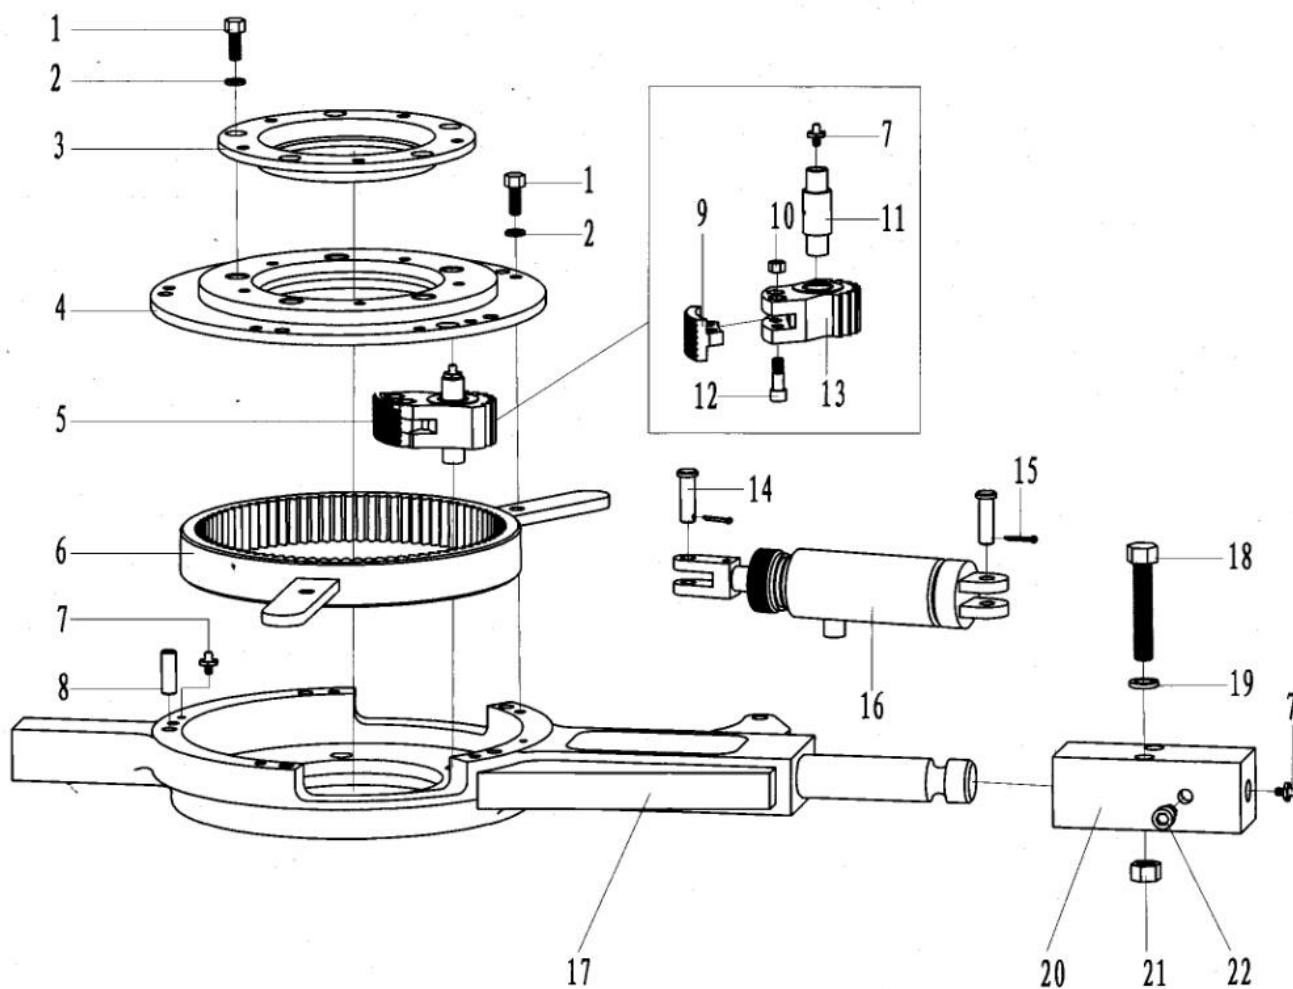

Fig. 24
10.11 Assembly of Backup Tong (Fig. 24, Table 11)